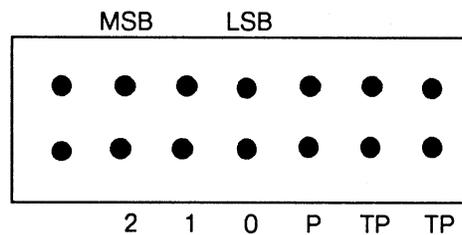

Figure 7-6. Selecting an Installed 170MB Disk Drive as Drive 0, First Configuration
1. Locate the jumper select card on the lower-left, rear side of the disk drive already installed (CDC). Be sure that positions 0, 1, and 2 (see Figures 7-6 and 7-8) are not jumpered.